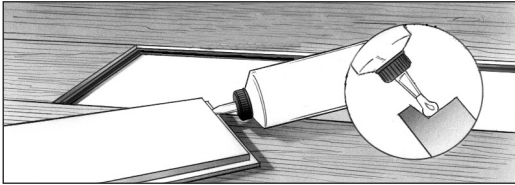

Fig. 52
12. Apply glue under the notches of the replacement piece (Fig. 52).